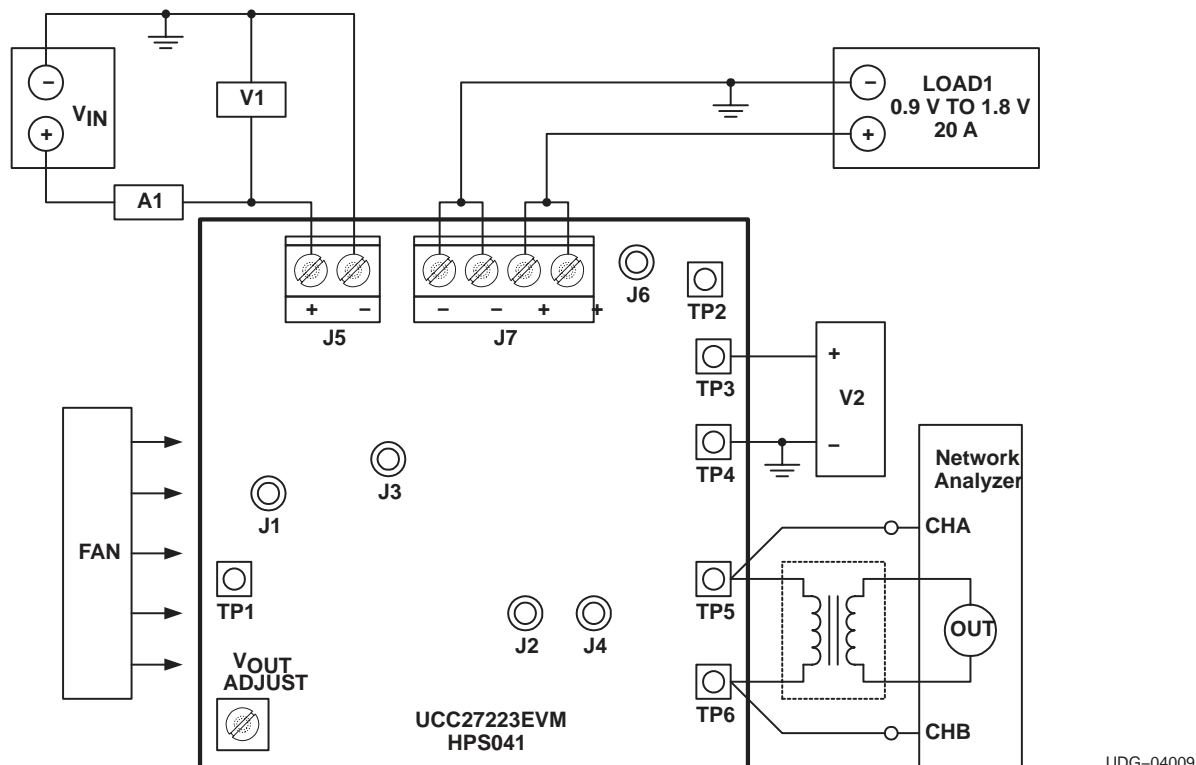
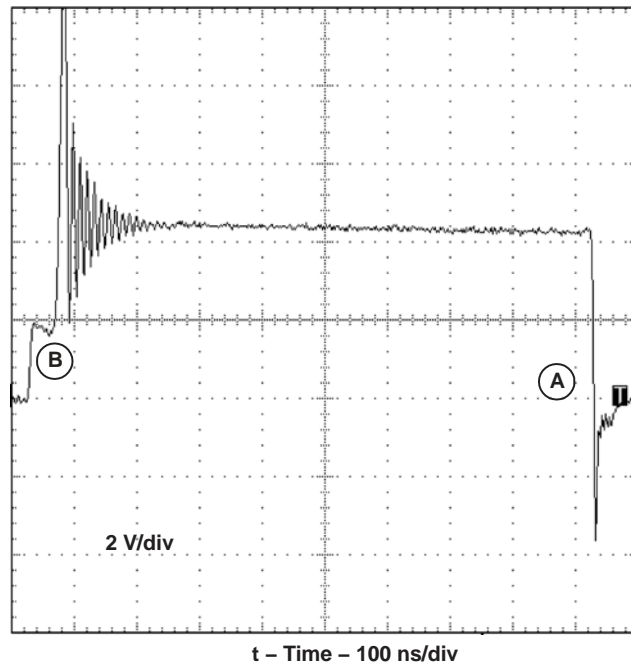
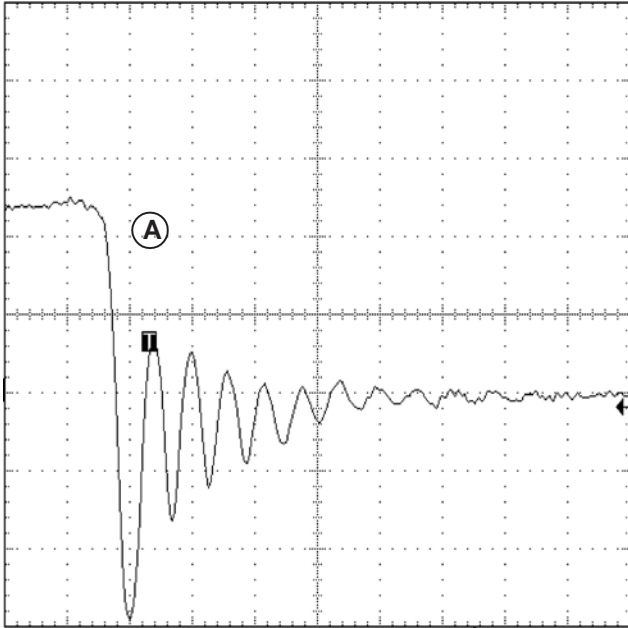
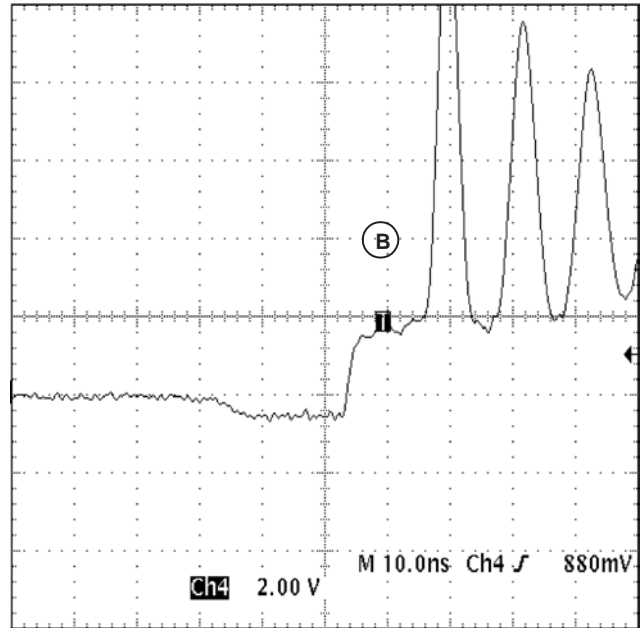

Figure 3. Recommended EVM Test Configuration
Figure 6. Switch-Node Voltage
Figure 7. Close Up: Switch-Node A
Figure 8. Close Up: Switch-Node B
Figure 3 shows is the basic test set up recommended to evaluate the UCC27223EVM. Please note that although the return for J5 is the same as the J7 return, the V_{IN} and LOAD1 connections should remain separate as shown below.
The input voltage should be a variable DC source capable of supplying between 0 Vdc and 6 Vdc at no less than 10 Adc, and connected to J5 as shown in Figure 3. For fault protection to the EVM, good common practice is to limit the source current to no more than $9 A_{DC}$ for a 5-V input. A dc ammeter, A1 should also be inserted between V_{IN} and J5 as shown in Figure 2.
A network analyzer can be connected directly to TP5 and TP6 as shown in Figure 3. The UCC27223EVM provides a 51.1- Ω resistor (R14) between the output and the voltage feedback to allow easy non-invasive measurement of the control to output loop response.
2. Prior to connecting the DC input source, V_{IN}, it is advisable to limit the source current from V_{IN} to a 9-A maximum. Connect the ammeter A1 (0-A to 10-A range) between V_{IN} and J5 as shown in Figure 3. Make sure V_{IN} is initially set to 0 V.
3. Connect LOAD1 to J7 as shown in Figure 3. Set LOAD1 to constant current mode to sink 0 A_{DC} before V_{IN} is applied.
4. Connect the voltmeter, V2 to TP3 and TP4 as shown in Figure 3.
J4 shown in Figure 3 allows convenient probing of the switch-node voltage, shown in Figure 6. The ringing shown on the switch-node voltage waveform is a result of component package inductance and parasitic inductance between the UCC27223 driver device and the high-speed switching MOSFETs, and is not a characteristic of Predictive Gate Drive™ technology. Predictive Gate Drive™ technology minimizes body-diode conduction as highlighted at points A and B of Figure 6. Figure 7 and Figure 8 show close up views of points A and B shown in Figure 6. Figure 8 shows some inductive ringing below the ground reference; however, it is not clamped by the body-diode of Q3.